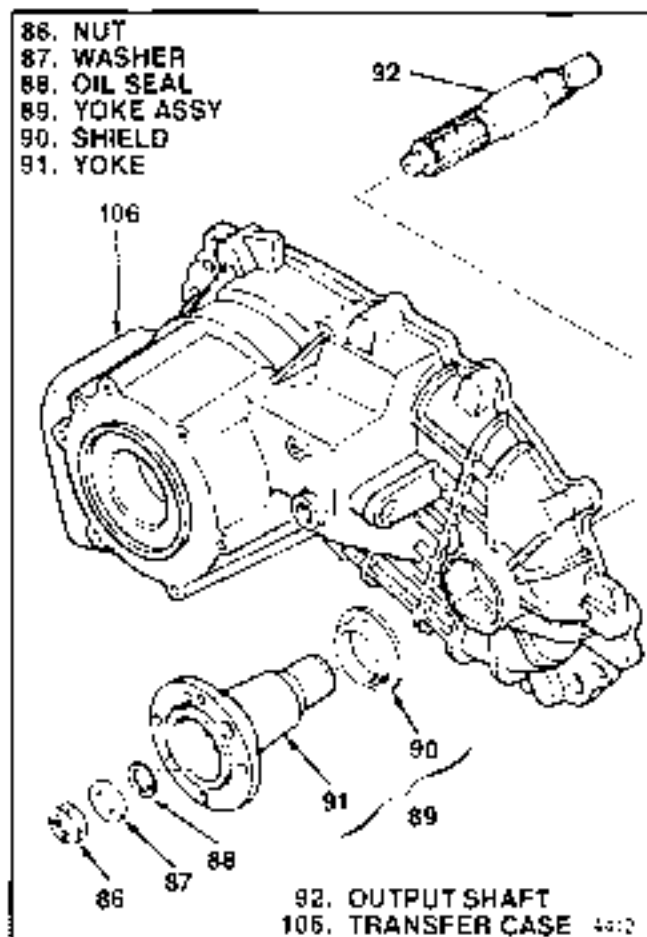
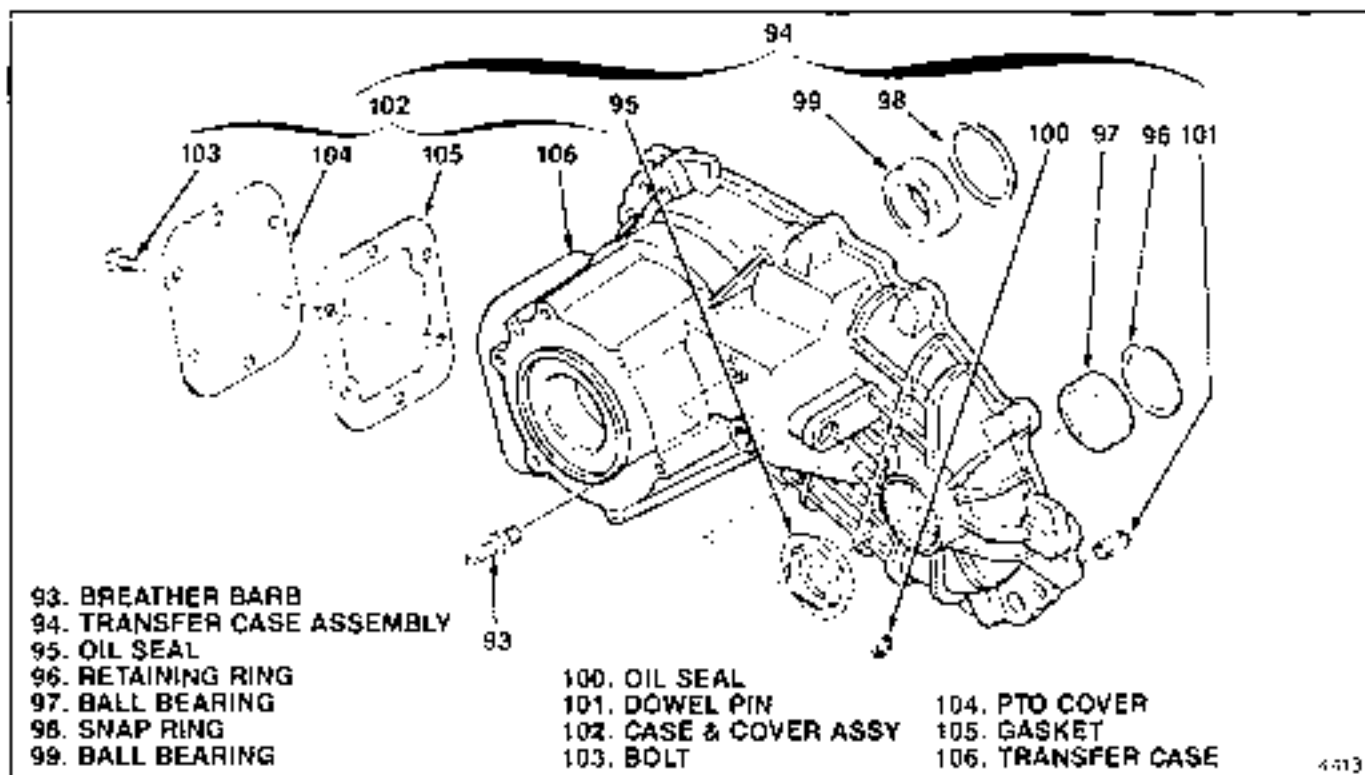

Figure 3-11. Front Output Shaft Group
Figure 3-12. Transfer Case Assembly
**3-16. REMOVAL OF FRONT OUTPUT SHAFT GROUP.** From remaining transfer case assembly (86) through (106), remove the following (see figure 3-11):
- Remove nut (86) and washer (87).
- Pull yoke assembly (89) and remove oil seal (88).
- Press shield (90) from yoke (91) only if replacement is required.
- Remove output shaft (92) from transfer case (106).
**3-17. DISASSEMBLY OF TRANSFER CASE ASSEMBLY.** Disassemble as follows (see figure 3-12):
- Remove breather barb (93).
- Pull oil seal (95).
- Remove retaining ring (96) and pull ball bearing (97).
- Remove snap ring (98) and pull ball bearing (99).
- Pull oil seal (100).
- Remove two dowel pins (101) from transfer case (106) only if they are loose or damaged.
- Remove bolts (103), PTO cover (104) and gasket (105).
- Scrape sealant from mating face of transfer case (106). Use care not to damage metal face.